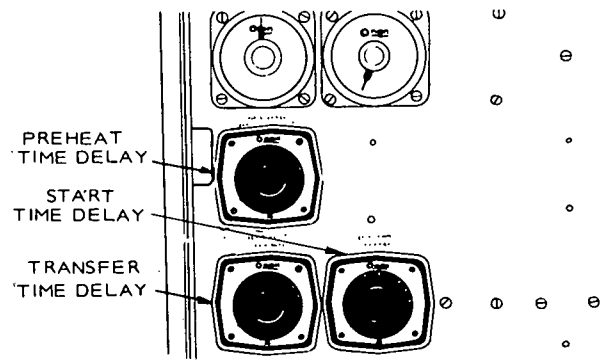

FIGURE 22. START AND TRANSFER TIME DELAY RELAYS
2. Turn the knob on the time delay clockwise to increase delay time, counterclockwise to decrease the delay time. See Figure 22.